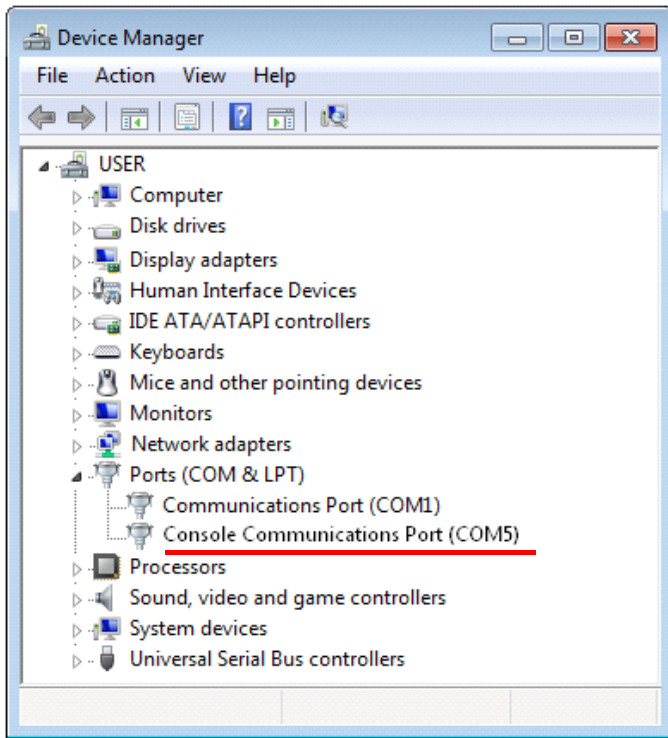

Figure 4: Gnome-Pico displayed in Device Manager.
- If the driver is installed successfully, the device will show up in the **Device Manager** dialog (Figure 4) in the **Ports (COM and LTP)** section as **Console Communications Port**.